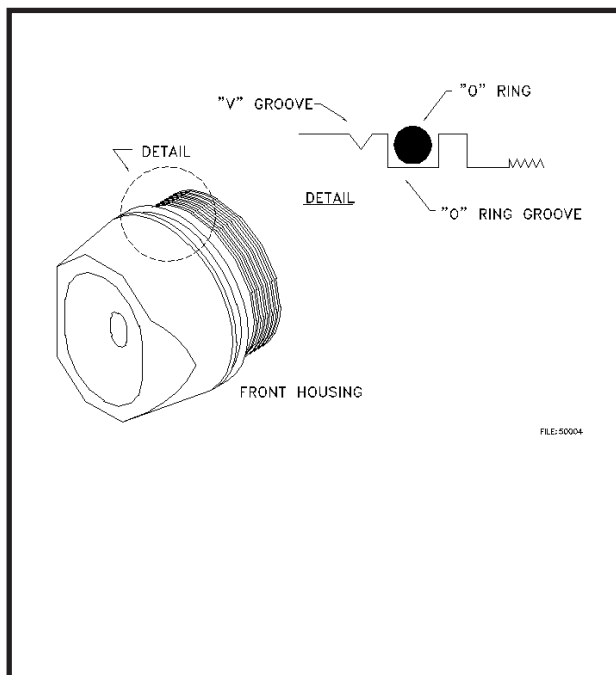
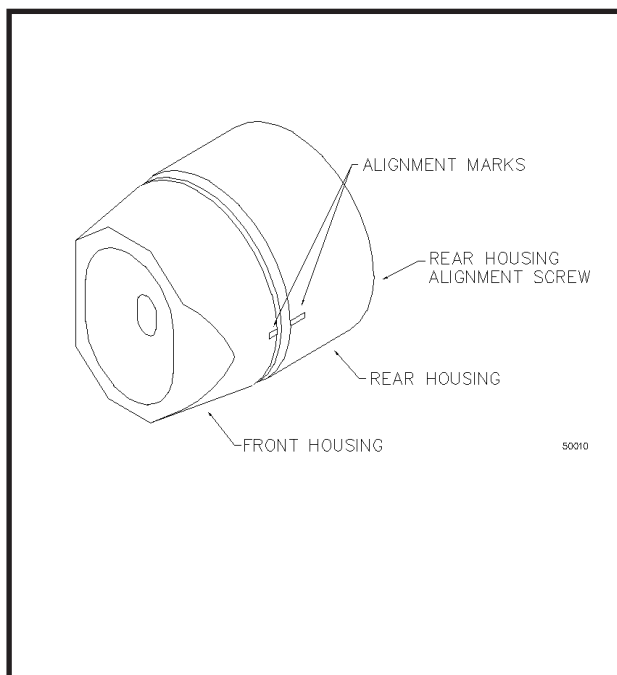

Figure 130-5 Housing “V” Groove
Figure 130-6 Alignment Marks
After five (5) complete turns, the O-Ring will begin to engage the Rear Housing. Take note of the alignment “V” groove (see figure 130-5) located on the Front Housing and alignment marks on both the Front and Rear Housings (figure 130-6). When the O-Ring disappears and the rear-most side of the alignment “V” groove has disappeared below the leading edge of the Rear Housing, the Front Cover is adequately engaged to insure an explosion proof and water resistant junction. It also indicates that the spring-loaded lamp contacts are engaging the top PC board. Continue to rotate the Front Housing until all of the alignment marks on the Front and Rear housings are aligned. When both alignment marks are aligned, the rear housing alignment screw must be fully seated to insure a water resistant seal.